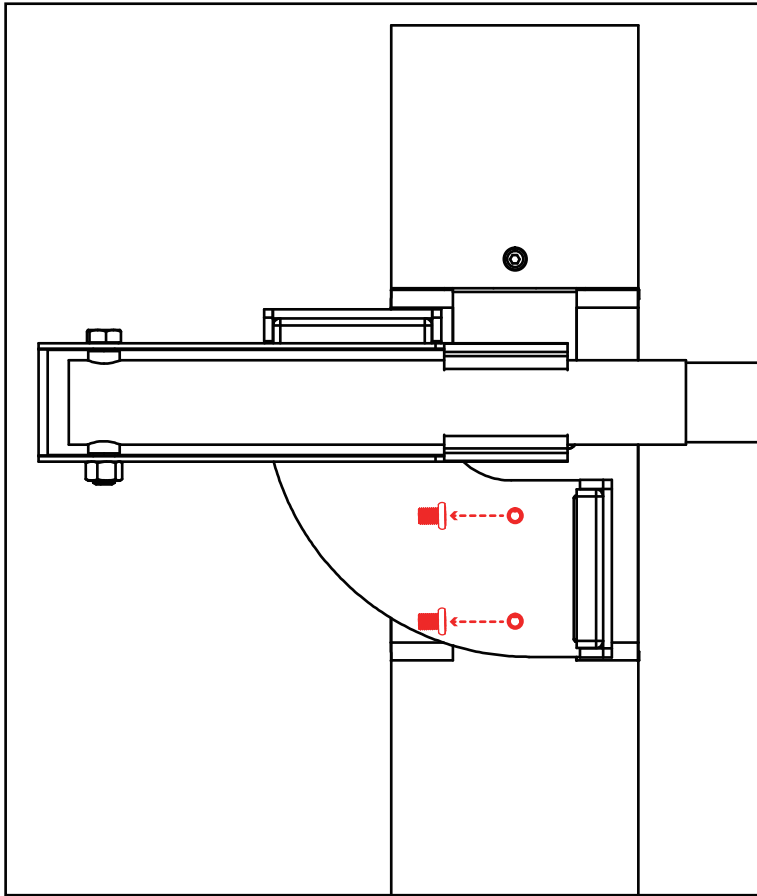

Figure 10
Step 1. Turn off the power, and remove two screws on the mechanical limited block, as shown in the figure 10.